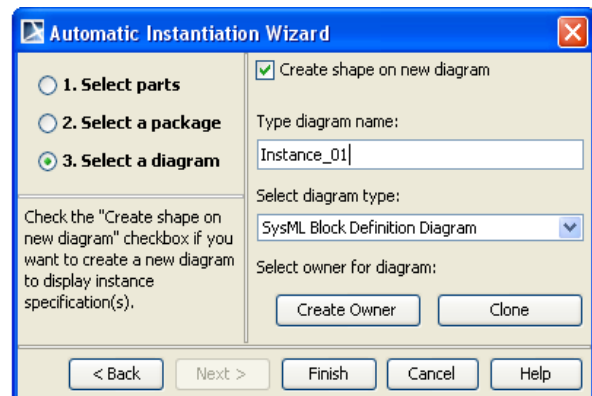

Figure 3.7c Automatic Instance Generation, Part 3
- v. Click the “Create shape on new diagram” checkbox (see Figure 3.7c).